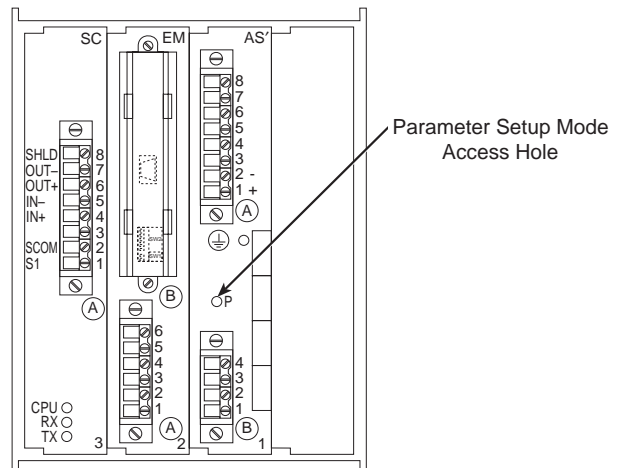
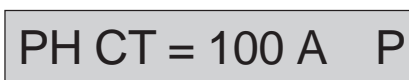

Figure 39: Location of parameter setup mode access hole (marked P)
Figure 41: Original PH CT setting
1. Locate the parameter setup mode access hole marked *P* on the rear of the digital relay. The access hole is located on the lower portion of card 1. Insert the tip of a pen into the access hole and press for one second to switch to the Setup mode (figure 39). The letter “P” displays at the extreme right of the LCD display (figure 41), indicating that the digital relay is in the (parameter) Setup mode.
- c. Briefly press the *device* button again. The PH CT setting displays (figure 41).
15. One minute after the last button press in the Setup mode, the digital relay automatically reverts to the Standard mode. You can manually exit the Setup mode by pressing the button in the parameter setup mode access hole marked *P* (figure 39, page 35).